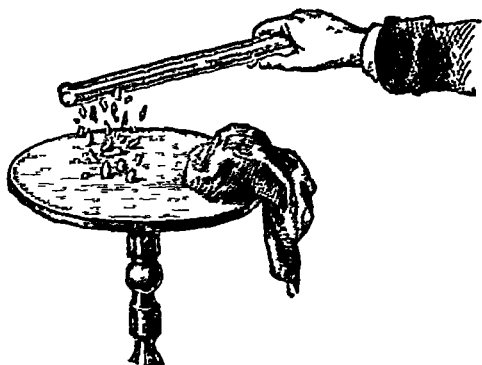

FIG 155
**Electrical attraction** —Rub a stick of resin or sealing-wax with flannel or cat-skin, and hold it near particles of paper, bran, feathers, or gold-leaf. The particles are attracted, they leap to the rubbed substance, some are then repelled, while others remain attached (fig 155). Sticks of shellac and sulphur, and rods of ebonite may be substituted for the sealing-wax. A glass tube closed at one end, thoroughly cleaned and warmed, rubbed with silk